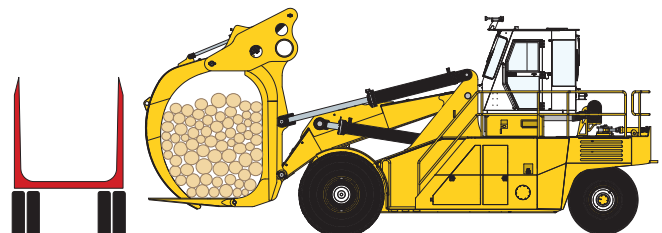

Figure 4-5-4 Ready to Move the Load
6. With the load clear of the vehicle, back away and lower the load about 3 feet (1 meter) above the ground, or just high enough to clear any obstructions on your way to the point of unloading (See Figure 4-5-4).